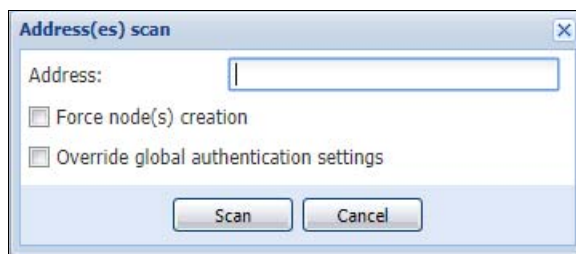

Figure 25 Address(es) scan options
- ▶ **Address(es) scan:** This allows the user to put in one or more IP addresses to scan for specific UPSs or PDUs as shown in Figure 25.